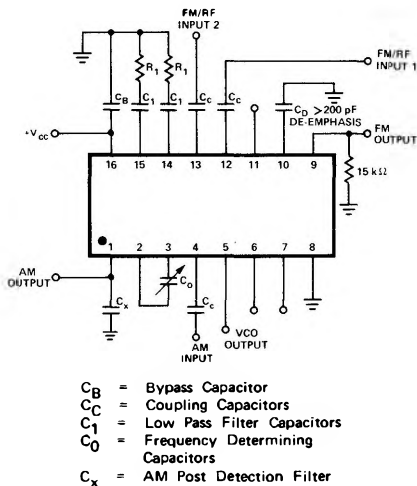

FIGURE 2
**ELECTRICAL CHARACTERISTICS (For FM Applications, Figure 2)** (15K $\Omega$  Pin 9 to GND, Input Pin 12 or 13, AC Ground Unused Input, Optional Controls Not Connected, V+ = 18V Unless Otherwise Specified TA = 25°C)
The de-emphasis terminal is normally used when the PLL is used to demodulate Frequency Modulated Audio signals. In this application, a capacitor from this terminal to ground provides the required de-emphasis. For other applications, this terminal may be used for band shaping the output signal. The 3 dB bandwidth of the output amplifier in the system block diagram (see Figure 2 .) is related to the de-emphasis capacitor,  $C_D$ , as: